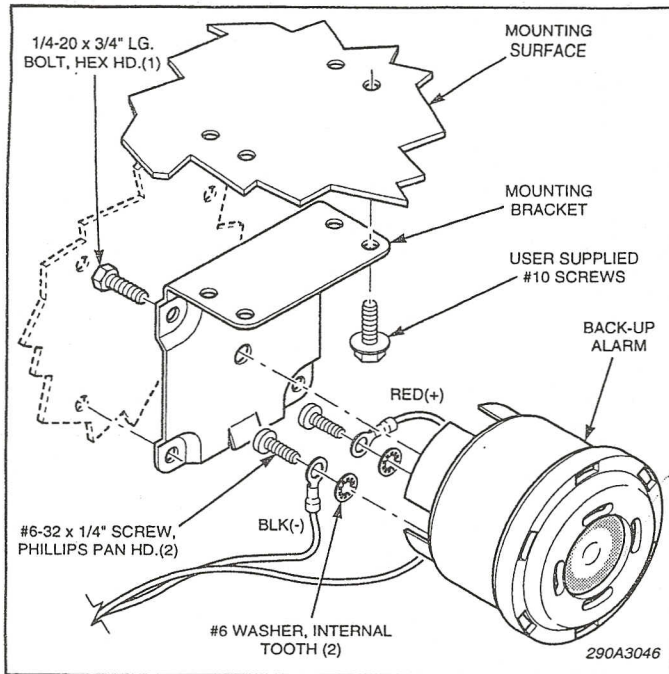

Figure 1.
1. Mounting Bracket (see figure 1).